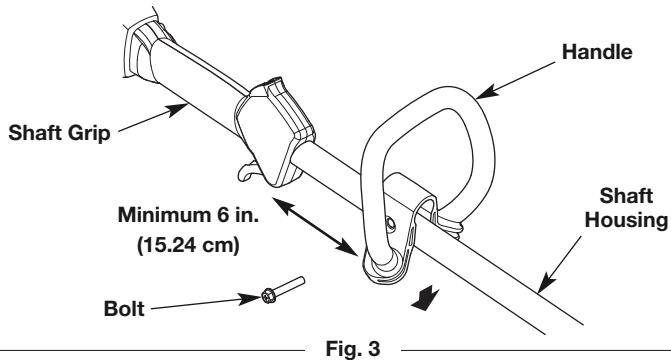

Fig. 3
1. Push the handle down onto the shaft housing (Fig. 3). The bolt hole in the handle should be to the right.
2. Insert the bolt into the bolt hole and push it through (Fig. 3). Tighten the bolt with a 3/8" socket, but do not tighten the bolt completely.
3. While holding the unit in the operating position (Fig. 10), move the handle to the location that provides the best grip. Place it a minimum of 6 inches (15.24 cm) from the end of the shaft grip (Fig. 3).
1. Loosen the bolt with a 3/8" socket (Fig. 3).
2. While holding the unit in the operating position (Fig. 10), move the handle to the location that provides the best grip. Place it a minimum of 6 inches (15.24 cm) from the end of the shaft grip (Fig. 3).